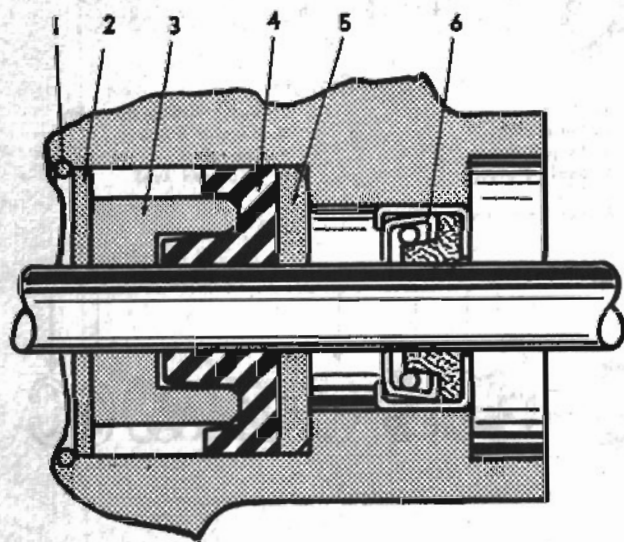

FIG. 40
**End Plate Seals**—Press the push rod leather seal (6, Fig. 40) into the end plate with the lip of the leather seal toward the hydraulic cylinder side of the end plate. Use a length of  $3/4''$  (19,0 mm.) rod, having a smooth end. Turn the end plate over and install the push rod hydraulic seal parts. Insert a new stop washer (5) with chamfered side down, new hydraulic seal cup (4) with the lip of the cup up, and the retainer (3) with the flat side up. Place the stop washer (2) against the retainer and install the snap ring (1) in the groove.